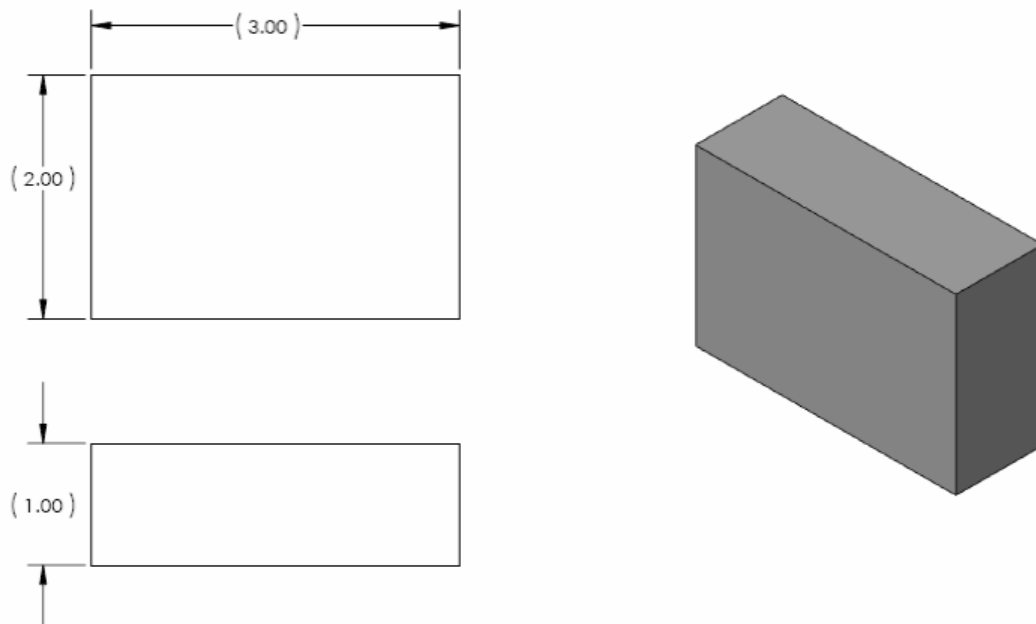

Figure 1—Concrete Block
- 2.3 *Blocks*, concrete, measuring 3 ± 0.1 in. (76 ± 2.5 mm) \times 1 ± 0.1 in. (25 ± 2.5 mm) \times 2 ± 0.1 in. (51 ± 2.5 mm), prepared in accordance with ASTM C 719. See Figure 1.